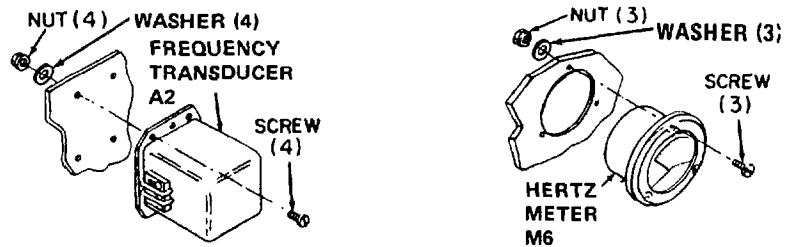

Figure 4-30. HERTZ Meter M6 and Frequency Transducer A2, Removal and Replacement
(4) Close control panel and secure in place.
c. Replacement. Tag and disconnect leads going to M6 and A2. Remove and replace M6 and A2 as illustrated in figure 4-30.